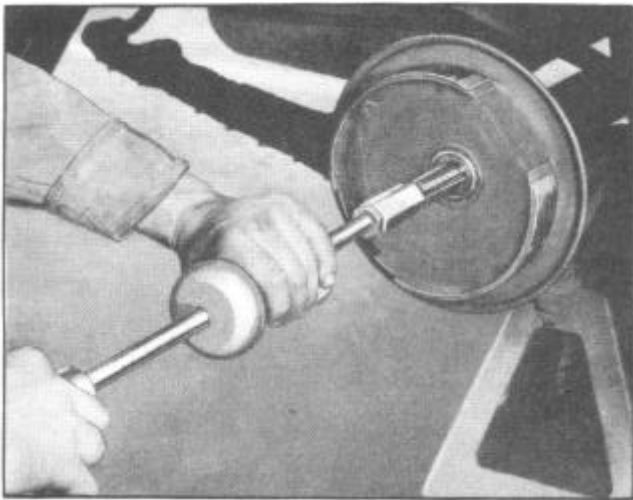

Figure 4--Removing Rear Axle Shaft and Wheel Bearing
6. Remove rear wheel bearings and axle shafts using axle shaft and bearing puller tool J 352, Figure 4.